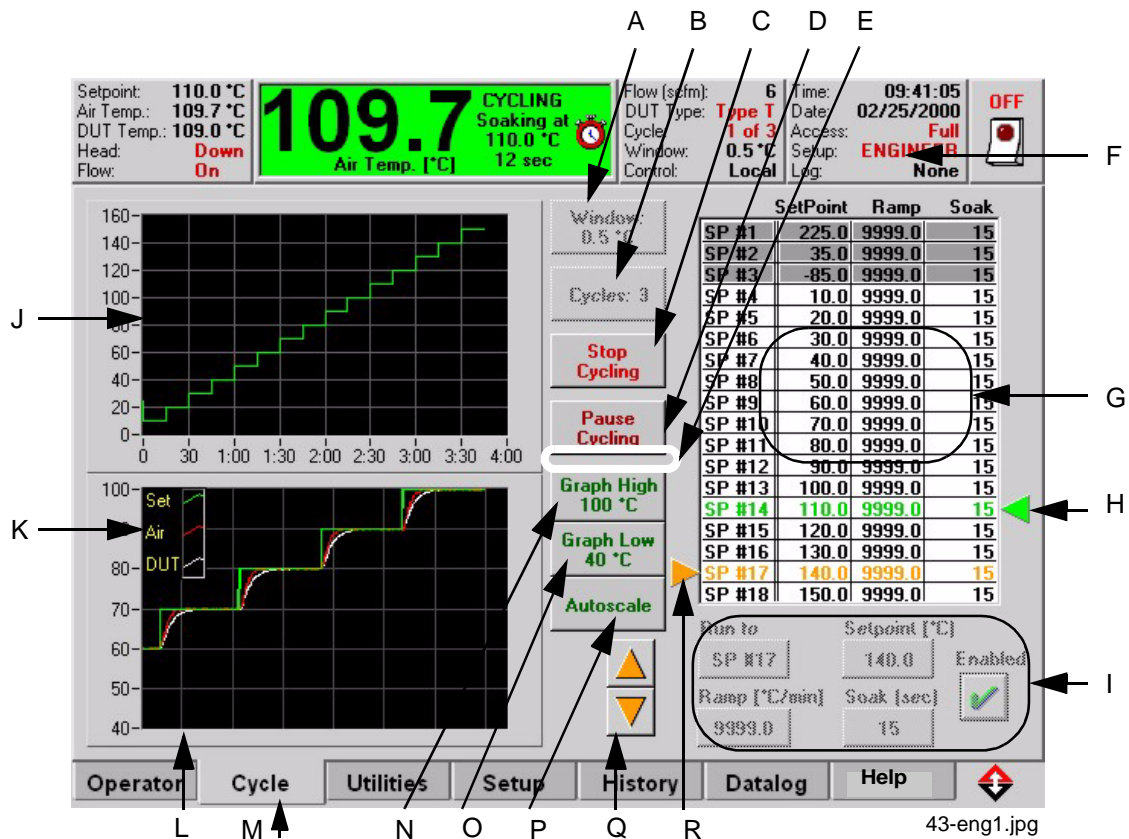

Figure 7-1. Cycle Screen
7. The Cycle Segments Table (and the Ideal Cycle Profile) on the *Cycle Screen* (see Figure 7-1. on page 26) will reflect the newly opened Setup.
ACCESS	Press "Cycle" Screen tab (see Figure 7-1)
ONE SEGMENT: MANUALLY RUN TO SETPOINT	For Cycle Screen fields, and buttons, see Figure 7-1. Use Up/Down Segment Pointer to choose Selected Segment; Press "Run To" (Temperature Display window shows: ramp/soak/"At Temp")
MULTI-SETPOINTS: AUTO CYCLE	For Cycle Screen fields, and buttons, see Figure 7-1. Press START CYCLING (Temperature Display window shows ramps/soaks). Active Segment Pointer moves down, points to Segment being ramped/soaked. ENABLED segments cycle in top-to-bottom order; then restart at top. If more than one cycle is programmed, then system advances to begin the next cycle until the set number of CYCLES is completed or CYCLES STOP pressed